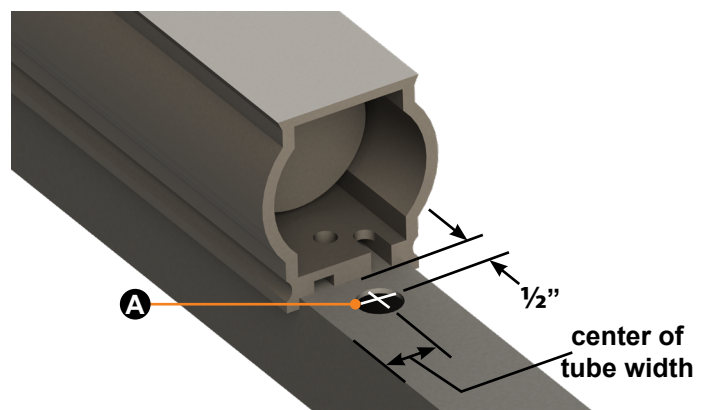

Fig.8
F. On the **starboard** railing **ONLY**, use a drill with a $\frac{1}{2}$ " bit to drill one hole in the top, center of the frame (Fig.8A) at the previously marked location (step B) (Fig.8).